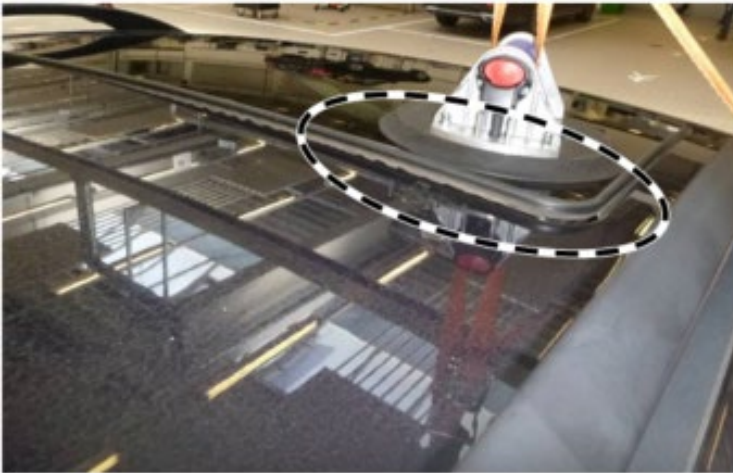

Figure5
- i** The sliding roof panel is lifted out of the roof frame noticeably at the rear test positions 1 and 5 (**figure5**).